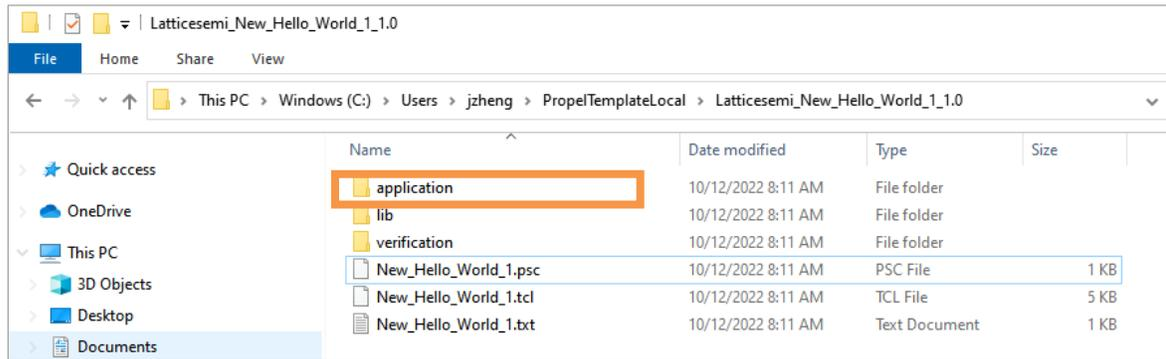

Figure 2.123. Export Template to PropelTemplateLocal Folder
- By default, after you click the Generate button, the new template can be installed to your custom template folder, which is a folder named PropelTemplateLocal under \$HOME (Figure 2.123).
- Option under Template Resources, such as the application folder, contains functional-ready embedded application source codes for C project. Check the box before it (Figure 2.119), then the application under current project is also exported to destination (Figure 2.123). Other files under this option works the same way.